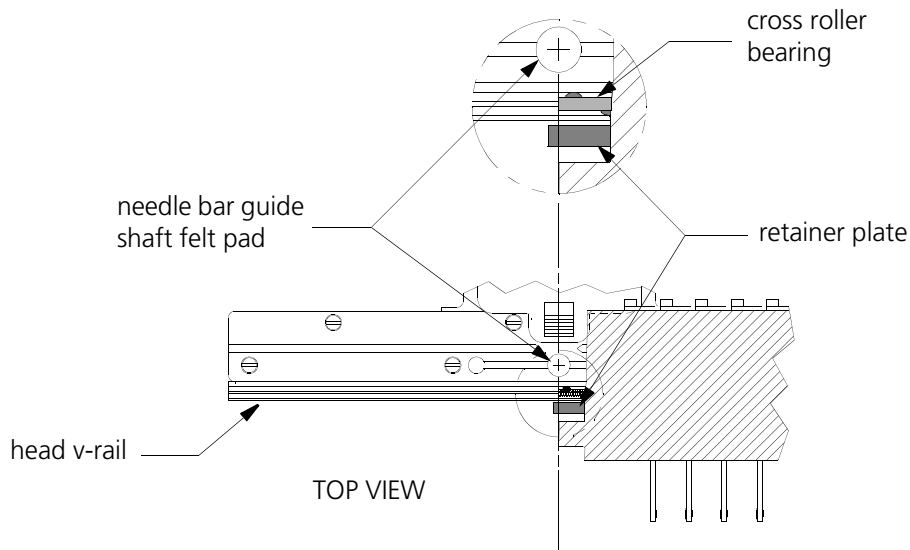

Figure 3-24
5. With the needle case and retainer plate assembly removed, lay the cross roller bearing onto the head v-rail (see Figure 3-24). Orient the bearing with the welded edge down and position it to the right edge of the v-rail.
7. Slide the retainer plate assembly left to the point where the left edge of the retainer plate is aligned with the center of the needle bar guide shaft felt pad (see Figure 3-24).